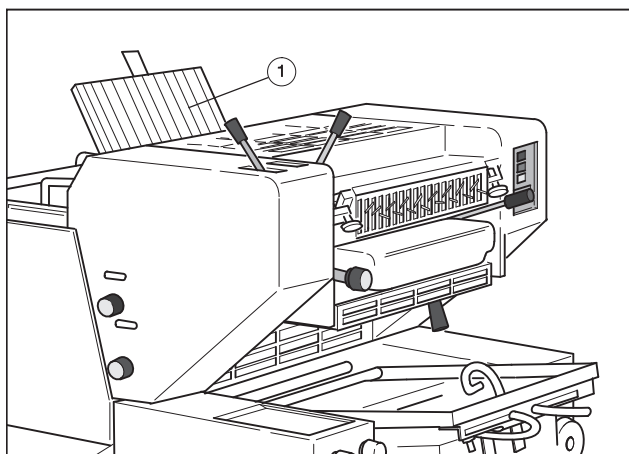

Fig. 8 Printing plate feed table, two-color press
- 2. Place printing plate on the plate feed table (Fig. 8/1).